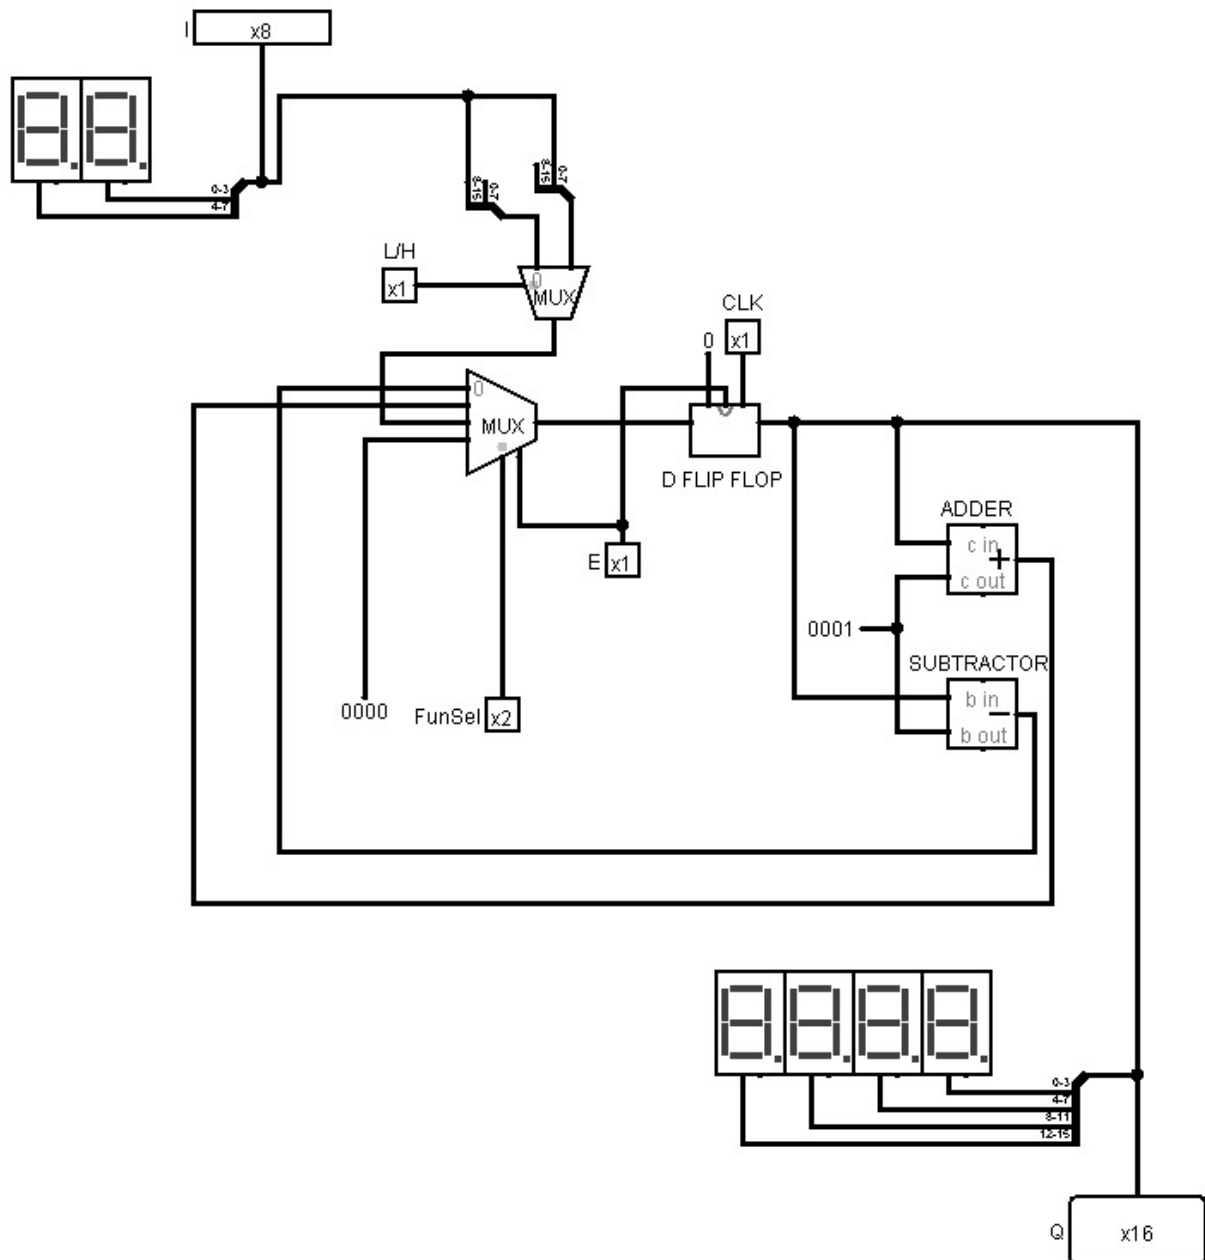
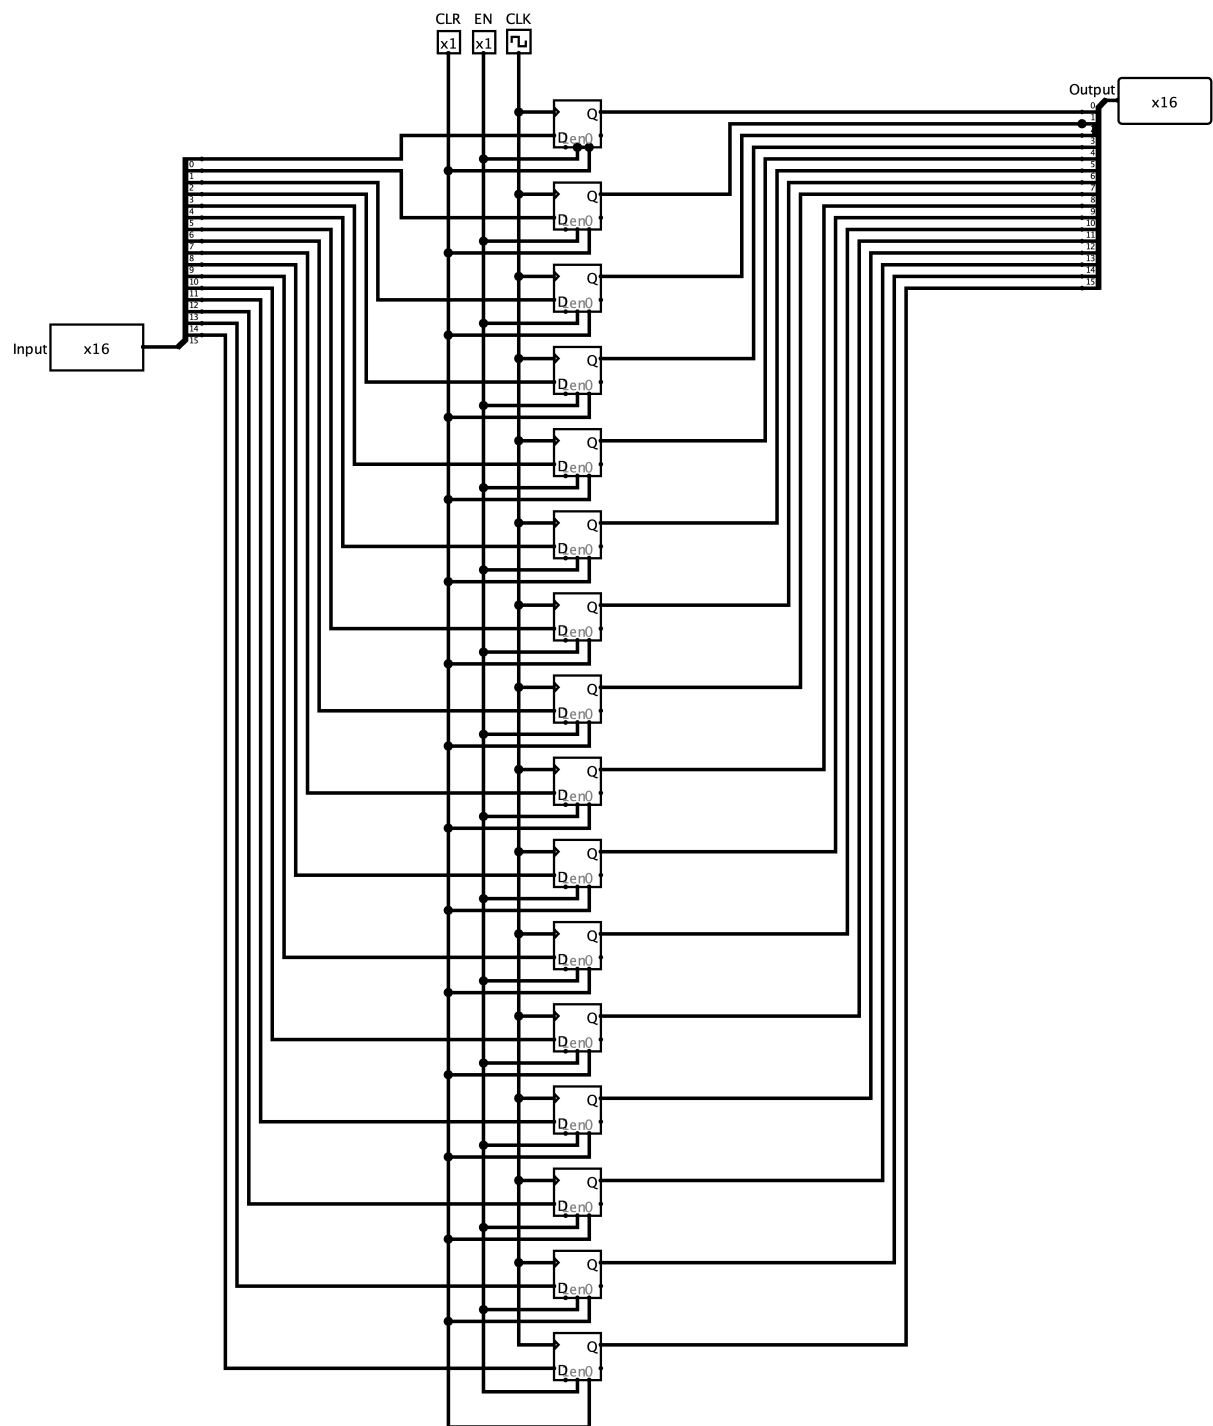

Figure 5: Logisim Circuit for Part 1.b
Figure 6: Logisim Circuit for D FLIP FLOP(16-bit)
As shown in Figure 5, there are following components in our design:
- **D FLIP FLOP:** This is a library that we designed to minimize the circuit in the Figure 5. As shown in Figure 6, it has 16 parallel D Flip Flops. Its 16-bit input is the output of MUX(4:1). D Flip Flops are used as the memory units.